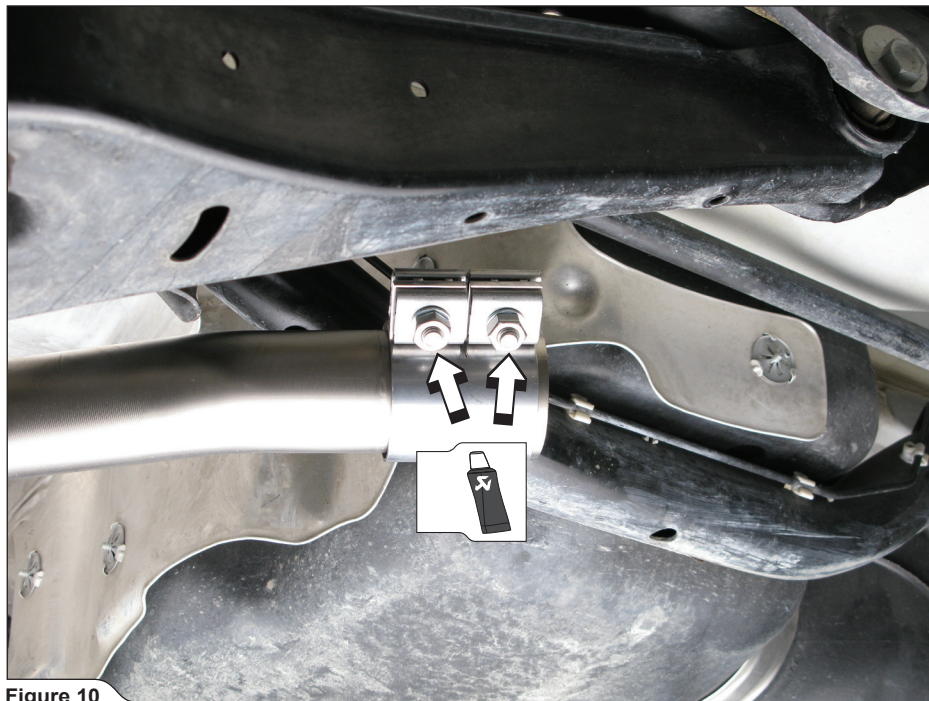

Figure 10
3. **For Slip-On and optional Link-Pipe:** slide the Akrapovič double clamp over the optional or stock Link-Pipe, as shown (Figure 10).